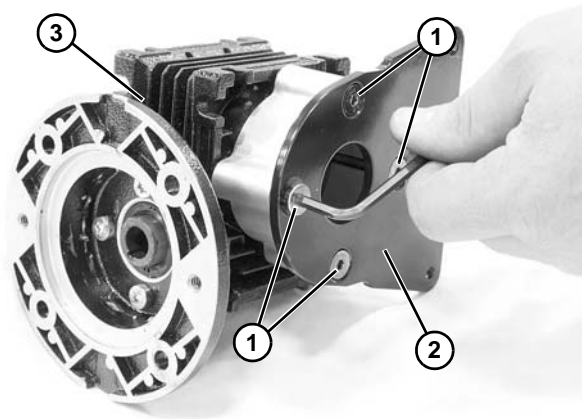

Figure 31
- Remove flat screws (**Figure 31, item 1**), mounting plate (**Figure 31, item 2**), and stand-off extrusion (**Figure 31, item 3**) from gear reducer.